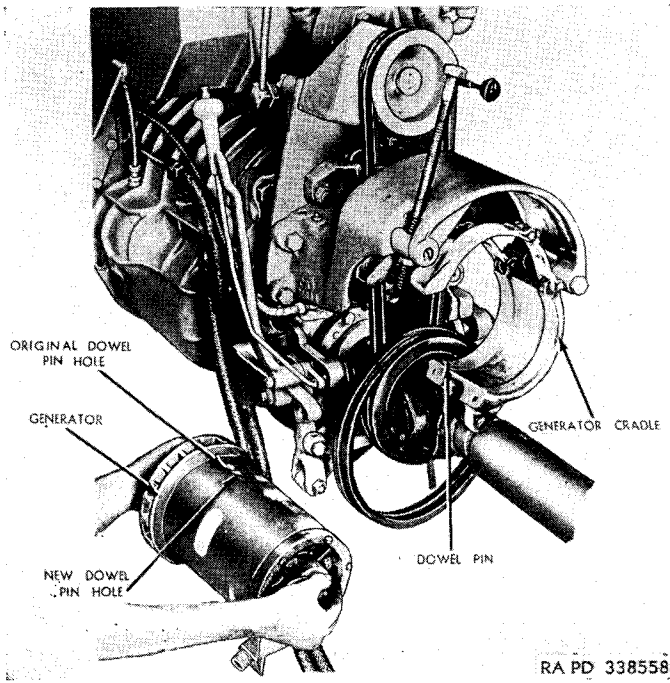

Figure 28. Installing generator.
r. **ALTER GENERATOR FRAME.** Drill another dowel pin hole in the generator frame, one-half inch to the rear of original dowel pin hole (fig. 28).
s. **INSTALL GENERATOR** (fig. 28). Install generator from driver's side in the generator cradle, so that the dowel pin in cradle fits in the new dowel pin hole in generator frame, and so that the ground cable screw is on top. Fasten the cradle on the generator with two screws and thread the generator adjusting screw through the cradle hinge. Install the generator belts on pulleys and turn adjusting screw until belts have a 1/2-inch deflection. Tighten adjusting screw lock nut. Connect the ground cable to generator.